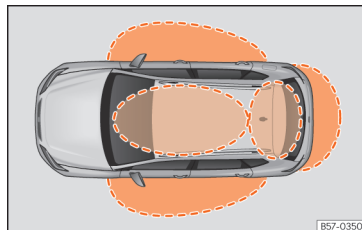
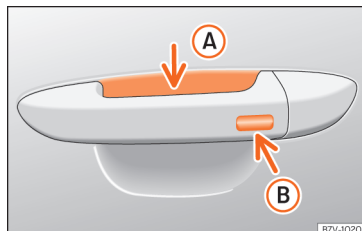

Fig. 78 Keyless Access: proximity zones.
Fig. 79 Door handle: sensor surfaces
»» **Fig. 79**
Keyless Access is a key-free locking and ignition system to unlock and lock the vehicle without actively using its key. To do this, all that is required is to have a valid vehicle key in the detection area where you are attempting to access the vehicle » **Fig. 78** and to touch one of the sensor surfaces on the door handles » **Fig. 79** or operate the *softtouch*/handle on the rear lid » **page 106** » **!**
If a valid key is in the proximity of the car, » **Fig. 78** the Keyless Access locking and starting system gives the key entry as soon as one of the sensor surfaces on the door handles is touched or the *softtouch*/handle on the rear lid is operated.
- Grip one of the front door handles. When you do this, you touch the sensor surface » **Fig. 79 (A)** (arrow) of the handle and the vehicle unlocks.
- Touch (*once*) the locking sensor surface » **Fig. 79 (B)** (arrow) on one of the front door handles. The door that is used must be closed.
- Touch (once) the sensor surface »» Fig. 79 **B** (arrow) on one of the front door handles. The vehicle locks with the “Safe” security system »» page 101. The door that is used must be closed.
- Touch (twice) the sensor surface »» Fig. 79 **B** (arrow) of one of the front door handles to lock the vehicle without activating the “Safelock” security system »» page 101.
When the vehicle is locked, the rear lid automatically unlocks on opening if there is a valid vehicle key in the proximity zone »» Fig. 78.
- Push the central locking button  on the remote control and touch the locking sensor surface of the driver door handle »» Fig. 79 **B** (arrow) within the following 5 seconds. Do not grasp the door handle; otherwise the vehicle will not unlock. Deactivation is also possible if the vehicle is locked through the driver's door lock.
To close all the electric windows and the sunroof using the **comfort function**, keep a finger for a few seconds on the locking sensor surface »» Fig. 79 **B** (arrow) of the door handle until the windows and roof have closed.
The sensor surfaces on the door handles could engage if hit with a water jet or high pressure steam if there is a valid vehicle key in the proximity. If at least one of the electric windows is open and the sensor surface »» Fig. 79 B (arrow) on one of the handles is activated continuously, all windows will close.